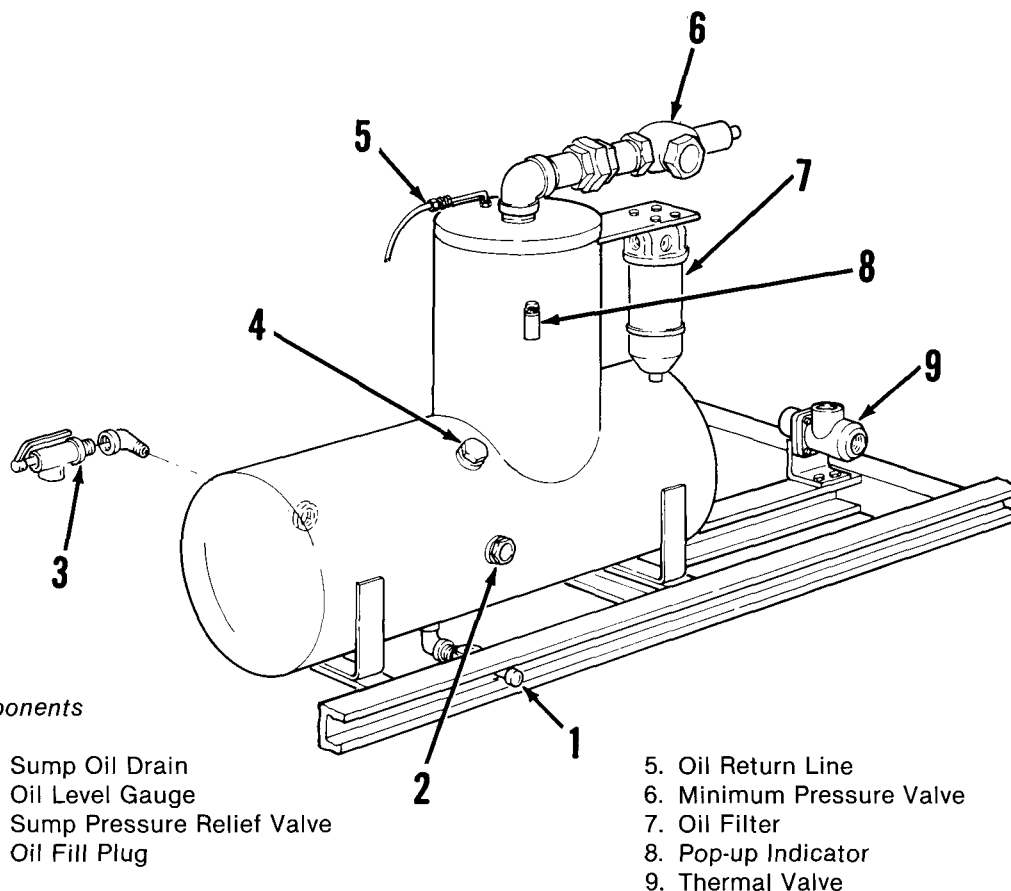

FIGURE 20
The oil sump contains all the oil required for compressor operation. Oil is added through the fill fitting (Figure 20) located on the side of the oil sump.
3. Drain condensate from oil sump (Figure 20). Depending on the humidity of the climate, this may be necessary daily. Prior to draining, the compressor should be shut down for two hours to allow the water and oil to separate.
This oil filter (Figure 20) is the replaceable element type. To install new element, simply remove and replace. Ascertain that element is secure and gasket is serviceable and in place.
The thermal valve, (Figure 20), should be inspected if the unit shuts down due to high compressor discharge air temperature. A piece of sediment may lodge on the valve seating surface and prevent it from closing and allowing the hot oil to pass into the compressor.